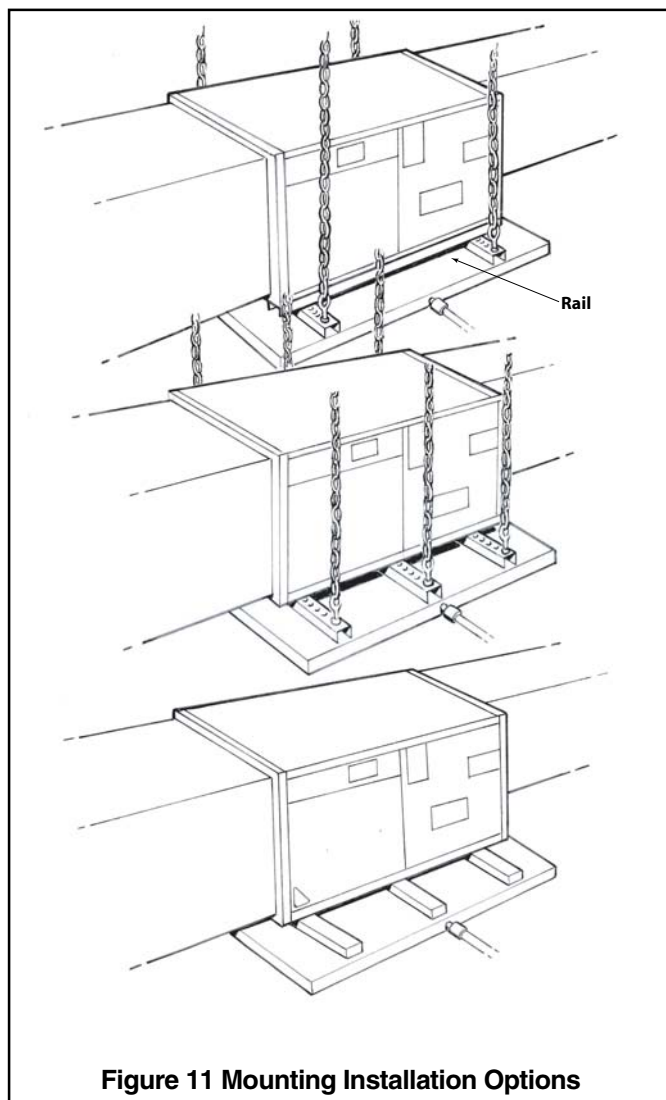

Figure 11 Mounting Installation Options
NOTE: Installation of the downflow baffle kit included with unit is required on downflow applications. See Figure 11.
- Remove front shield by removing screws on right side. Make sure to reinstall front shield after baffle changes. See Figure 11.
- Detach the coil from the drain pan by removing 4 screws as shown in Figure 11.
- Remove the front triangular baffle from the coil and install the 1/2" wide gasket provided per Figure 11. Trim the gasket length to fit the baffle. Reinstall the baffle to coil, with gasket material compressed against the coil.
- Install the water blow-off baffles provided on each side of the coil with the flange at the top as shown in Figure 11. The bottom of the baffle is to be as close to the bottom of the coil as possible.
- If the unit is suspended, it must be supported from the bottom near both ends as well as the middle to prevent sagging. The service access must remain unobstructed. If the unit is supported along the length of the front and back with rails, the air handler only needs to be suspended at both ends. See Figure 11. If the unit is not suspended it must be supported as mentioned above and isolated carefully to pre-
- c. If the unit is suspended, it must be supported from the bottom near both ends as well as the middle to prevent sagging. The service access must remain unobstructed. If the unit is supported along the length of the front and back, the air handler only needs to be suspended at both ends. See Figure 11.